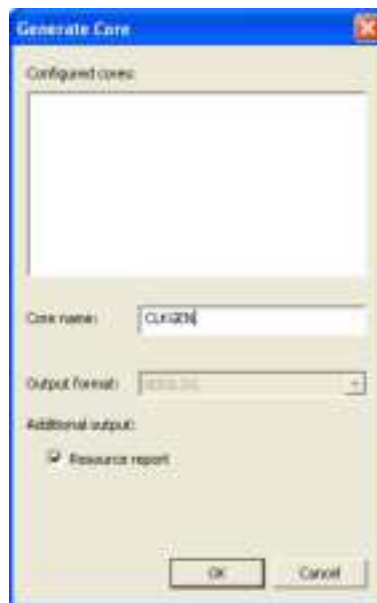

Figure 1-9 • Generate Core Dialog Box
4. Name the core **CLKGEN** (as shown in Figure 1-9) and click **OK**.